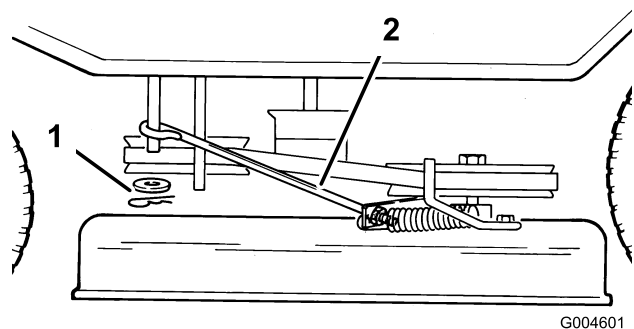

Figure 40
11. Remove the hairpin cotter and washer from the blade control arm on the left side of the mower (Figure 40).
17. Install the blade control rod onto the blade control arm and secure it with the washer and hairpin cotter (Figure 40).